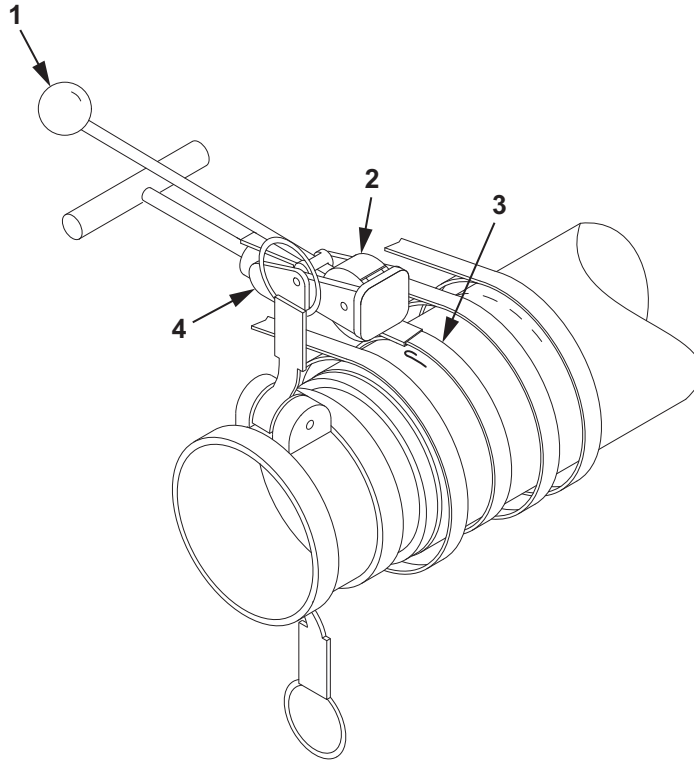

Figure 8. 4 In. Discharge Hose Repair.
17. While holding the clamping tool handle (Figure 8, Item 1) in the down position, strike the center punch anvil (Figure 8, Item 2) three to four times with a hammer.
18. While still holding the clamping tool handle (Figure 8, Item 1) in the down position, raise the entire clamping tool (Figure 8, Item 4) up to shear the tail of the band off of the clamp (Figure 8, Item 3).
19. Using hammer, tap the edge of the distorted clamp (Figure 8, Item 3) down to a level configuration.